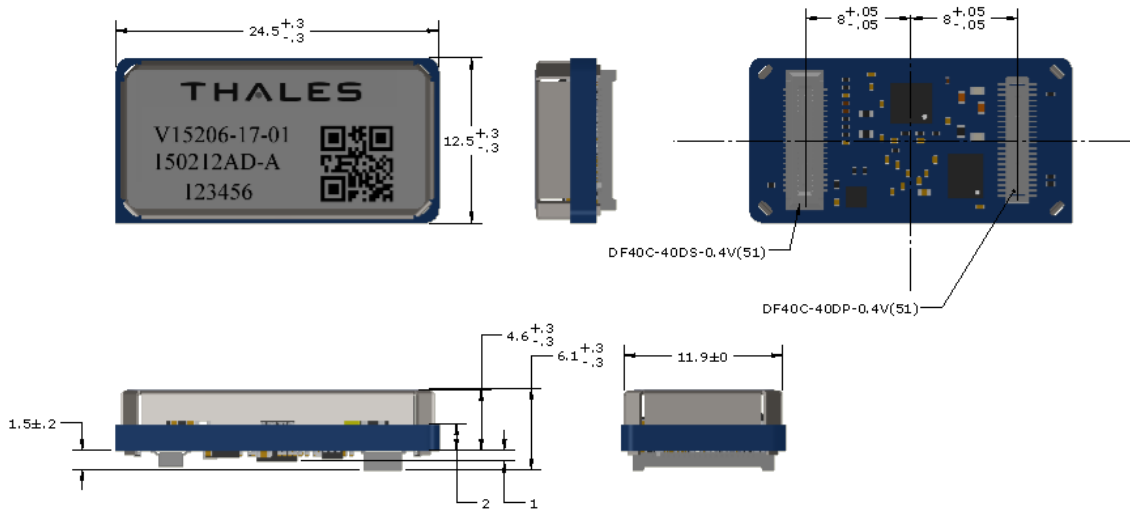

Figure 2: Dimensions (mm)
1. Refer to Figure 2: NavChip Mechanical Dimensions for clearances required for proper mounting.